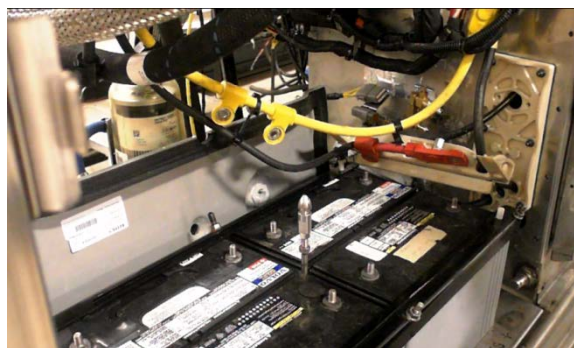

FIGURE 44
4. Put the whole battery cable arrangement aside (FIGURE 44).